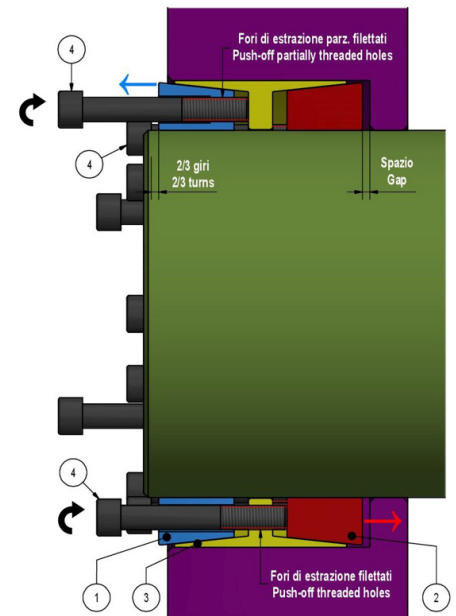

Fig. 2
2. For ease of installation, thrust rings shall be disengaged (fig. 2). Loosen all screws by two/three turns; then transfer and hand tighten at least two screws into the push-off threaded holes in the front thrust ring and at least two screws into the push-off threaded holes in the outer ring, accessible via corresponding clearance holes in the front thrust ring.
3. Insert Locking Assembly into the hub bore and make it slide onto the shaft, making sure that connected components are positioned as required. **Thrust rings and outer ring shall be completely supported by shaft respectively hub bore (fig. 2).** At this point, relocate the screws used to disengage the thrust rings. Installation into hubs with shoulder requires a few mm's gap between rear thrust ring and shoulder (fig. 2).